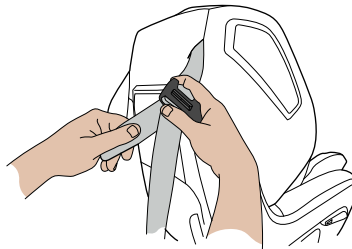

Figure 4
Step 1. Press top tether adjust button (grey - Figure 4)